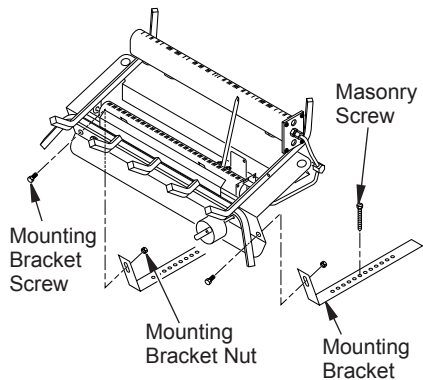
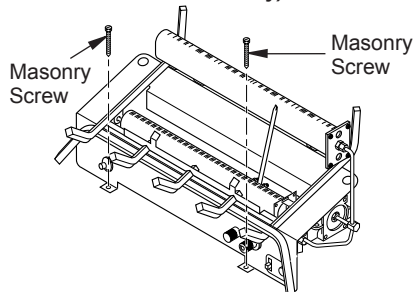

Figure 13 - Attaching Heater to Fireplace Floor (Variable Manually-Controlled Models Only)
Figure 14 - Attaching Base to Fireplace Floor (Remote-Ready Models Only)
2. Locate mounting brackets, bolts, and nuts in hardware package (Variable Manually-Controlled Models Only). Attach mounting brackets to heater base (see Figure 13). Attach nuts finger tight.
4. For Variable Manually-Controlled Models mark screw locations through holes in mounting brackets (see Figure 13). For Remote-Ready Models mark screw locations through holes in front panel of base (see Figure 14). If installing in a brick-bottom fireplace, mark screw locations in mortar joint of bricks.
8. For Variable Manually-Controlled Models attach mounting brackets to fireplace floor using masonry screws provided in hardware package (see Figure 13). Reattach heater base to mounting brackets (see Figure 13). Tighten nuts firmly.
9. For Remote-Ready Models, attach base, through holes in front panel of base, to fireplace floor using masonry screws provided in hardware package (see Figure 14).